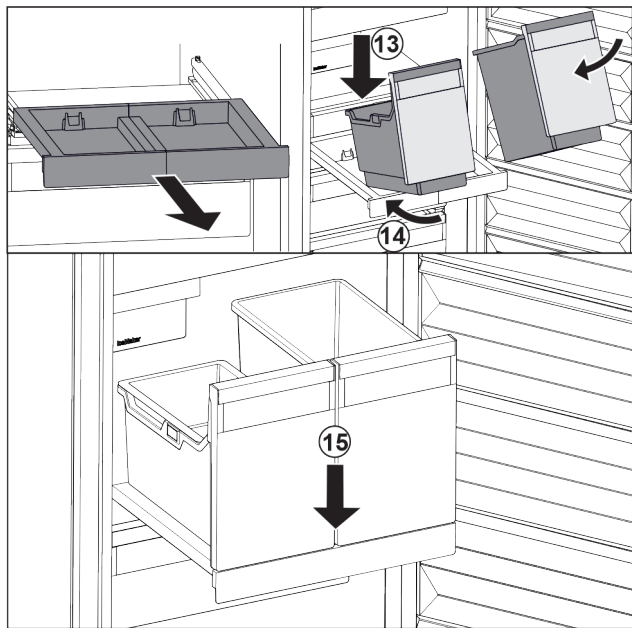

Fig. 105
- ▶ Place the container at an angle on the pull-out board. Fig. 105 (13)
- ▶ Slide in the container at an angle to the back. Fig. 105 (14)
- ▶ Place container at the front. Fig. 105 (15)